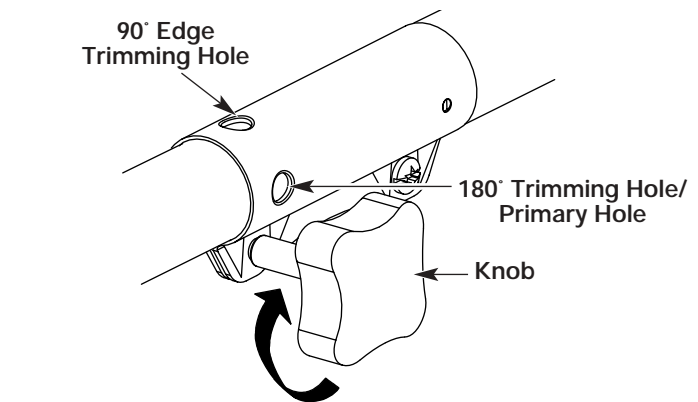

Fig. 11
3. Turn the knob clockwise to tighten (Fig. 11).
For decorative trimming/edging with the **line head cutting attachment**, lock the release button of the cutting attachment into the 90° hole or the 180° hole (Fig. 11).
For edging with the **edger add-on**, lock the release button of the cutting attachment **only** into the 180° trimming hole/ primary hole (Fig. 11).